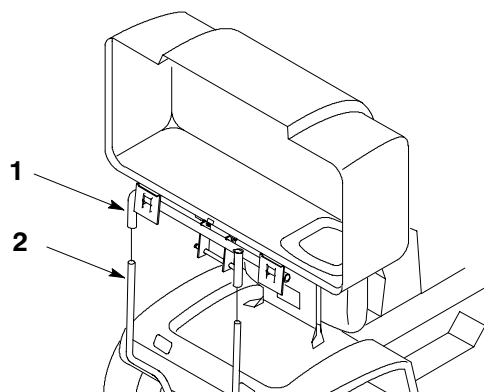

Figure 30
3. With the lid in the open position carefully lift the bagger top and slide off the quick-attach bracket (Fig. 30).